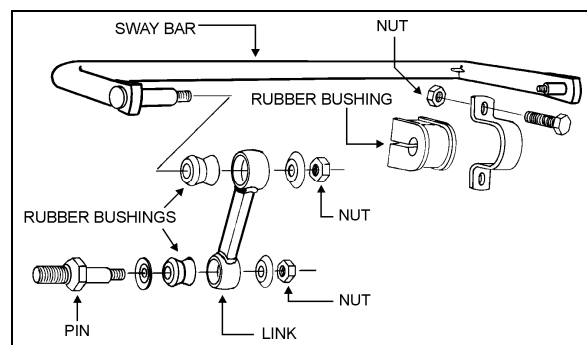

FIGURE 9: FRONT & DRIVE AXLE SWAY BAR
A sway bar is provided on the front axle to increase vehicle stability. It controls lateral motion (swaying movement) of vehicle (Fig. 9).
2. Tighten the eight bushing collar nuts according to Torque Table under heading Torque Specifications (Fig. 9).
3. Tighten sway bar link upper nuts and lower nuts according to Torque Table under heading Torque Specifications (Fig. 9).